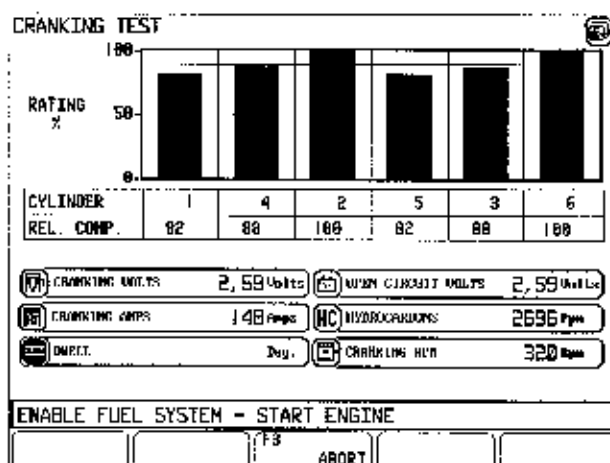

Figure 2-2
5. Follow the next screen prompt and crank the engine until it starts. After the Engine Analyzer Module reads the cranking data, it will display the readings on the screen (see Figure 2-2).